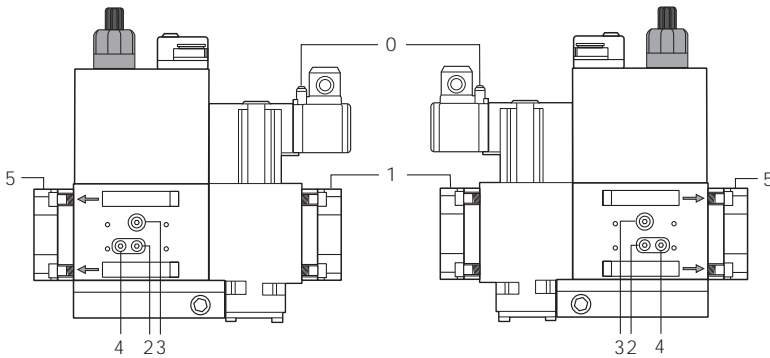
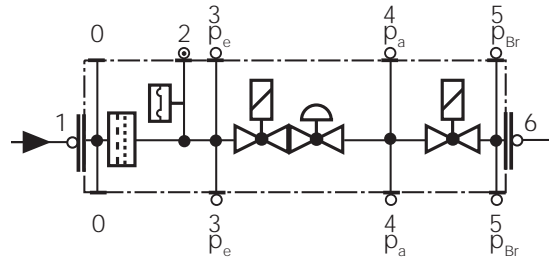

Fig. 37
Fig. 38
- Change the filter if the pressure difference between pressure connection 1 and 2 (Fig. 37-Fig. 38) $\Delta p > 10$ mbar.
- Change the filter if the pressure difference between pressure connection 1 and 2 (Fig. 37-Fig. 38) is twice as high compared to the last check.